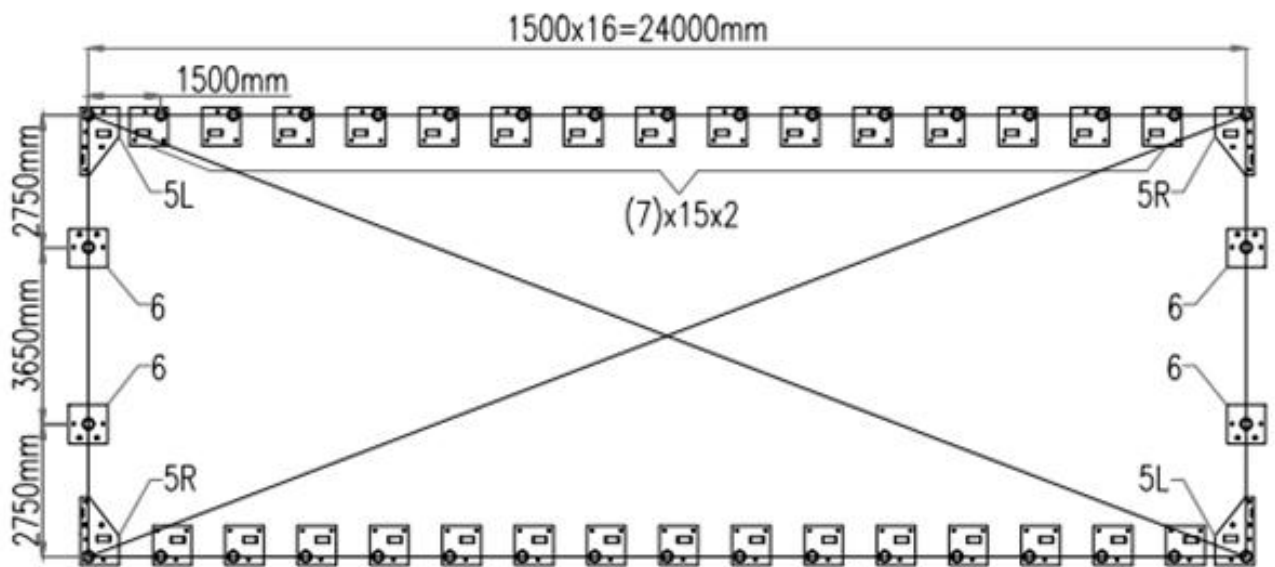

Figure 1
- Baseplates : all baseplates must be installed firmly with expansion bolts (#16) on this step (figure 1).
- (4) Baseplates (#5L,#5R)
- (30) Baseplates (#7)